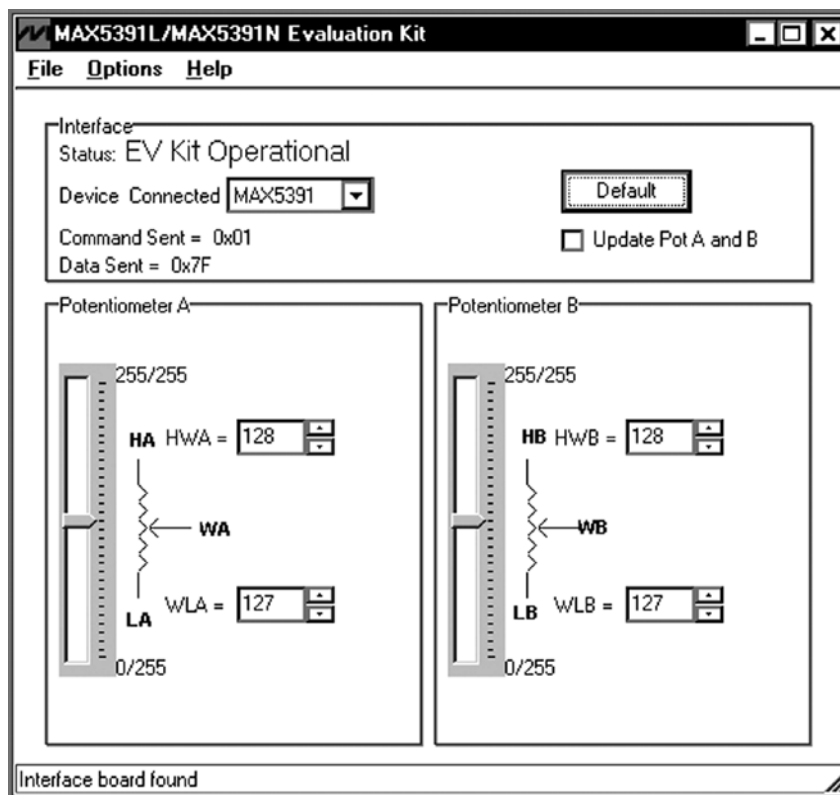
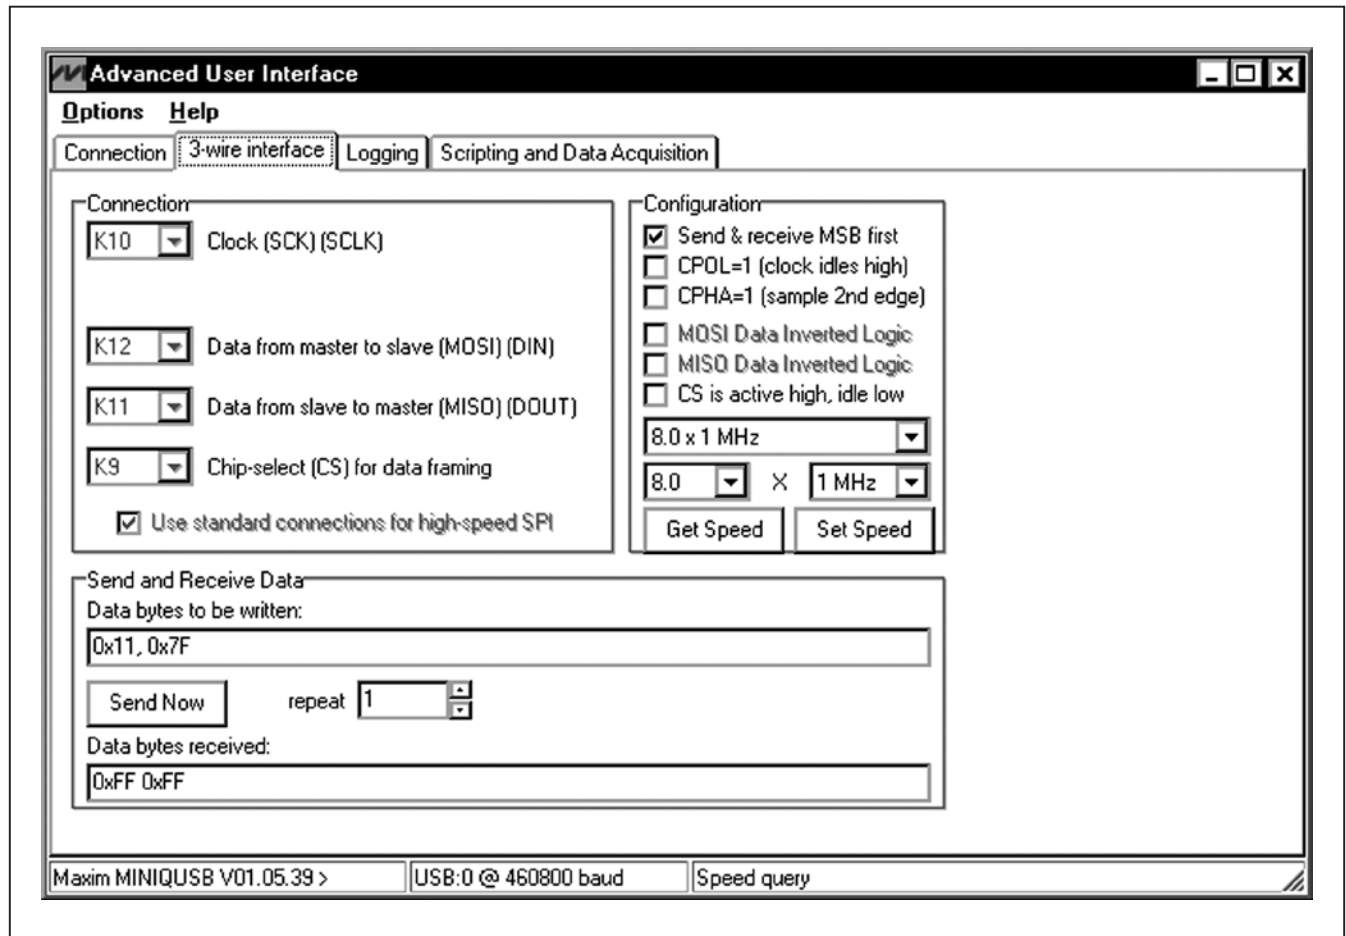

Figure 1. MAX5391L/MAX5391N Evaluation Kit Software Main Window
Figure 3. Simple Low-Level 3-Wire Interface
- 10) Using the **Device Connected** combo box, select MAX5391 from the list and then press the **Default** button. The EV kit software main window appears, as shown in Figure 1.
The EV kit software GUI shown in Figure 1 is a Windows program that provides a convenient means to control the MAX5391L and MAX5391N dual potentiometers. Use the mouse or press the Tab key to navigate through the GUI controls. The correct SPI write operations are generated to update the MAX5391L/MAX5391N internal memory registers when any of these controls are executed.
There are two methods for communicating with the EV kit, through the normal user-interface panel (Figure 1), or through the SPI commands available by selecting the **3-Wire Interface** utility from the main program's **Options | Advanced Users Interface** menu bar. A window is displayed (Figure 3) that allows SPI send/receive data operations.
On the **3-wire interface** tab, the **Connection** group box defines the hardware connections of the interface. For the EV kit, **K10** is selected from the **Clock (SCK)(SCLK)** drop-down list, **K12** from the **Data from master to slave (MOSI)(DIN)** drop-down list, **K11** from the **Data from slave to master (MISO)(DOOUT)** drop-down list, **K9** from the **Chip-select (CS) for data framing** drop-down list, and the **Use standard connections for high-speed SPI** checkbox is checked (see Figure 3).
The **Configuration** group box allows the user to configure the logic level and data rate. For the EV kit, check the **Send & Receive MSB first** checkbox and verify that the **CPOL=1(clock idles high)** and **CPHA=1(sample 2nd edge)** checkboxes are unchecked (see Figure 3).
Note: The SPI dialog boxes accept numeric data in hexadecimal format. Hexadecimal numbers must be prefixed by \$ or 0x. Figure 3 shows a simple SPI write-byte operation using the included 3-wire interface diagnostics tool. In this example, the software is sending command 0x11 (write to potentiometers A and B) and data 0x7F. The data sequence sets potentiometer A and B wiper positions to 127.